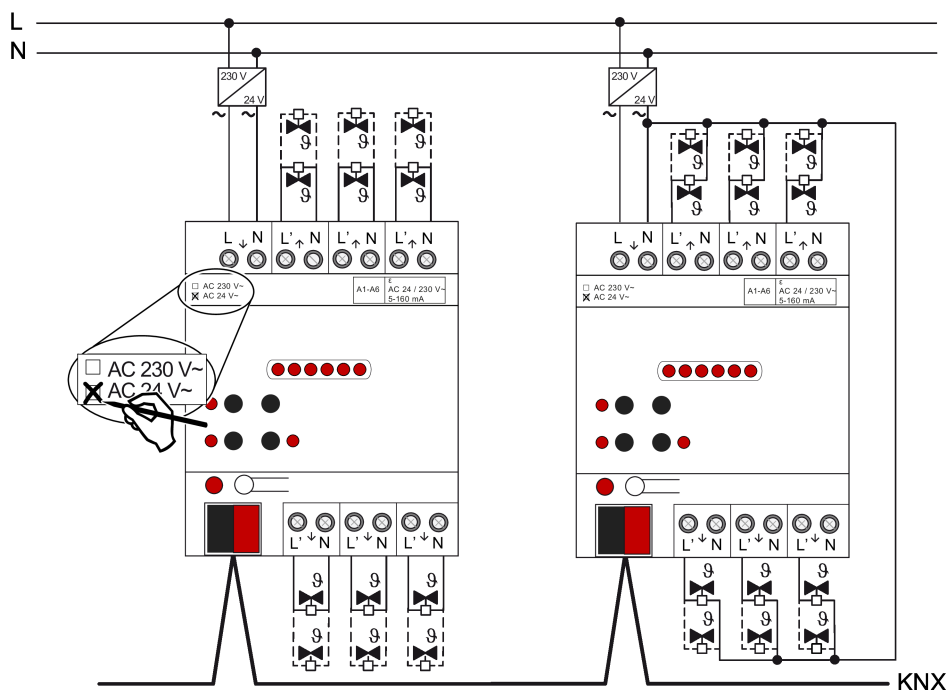

Figure 3: Connection for actuators AC 24 V
- Connect AC 24 V valve drives according to the connection diagram (see figure 3).